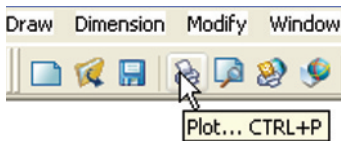

Fig. 16.29 Calling the **Plot** tool from the **Standard** toolbar
1. With a drawing to be printed or plotted on screen *click* the **Plot** tool icon in the **Standard Annotation** toolbar. (Fig. 16.29).